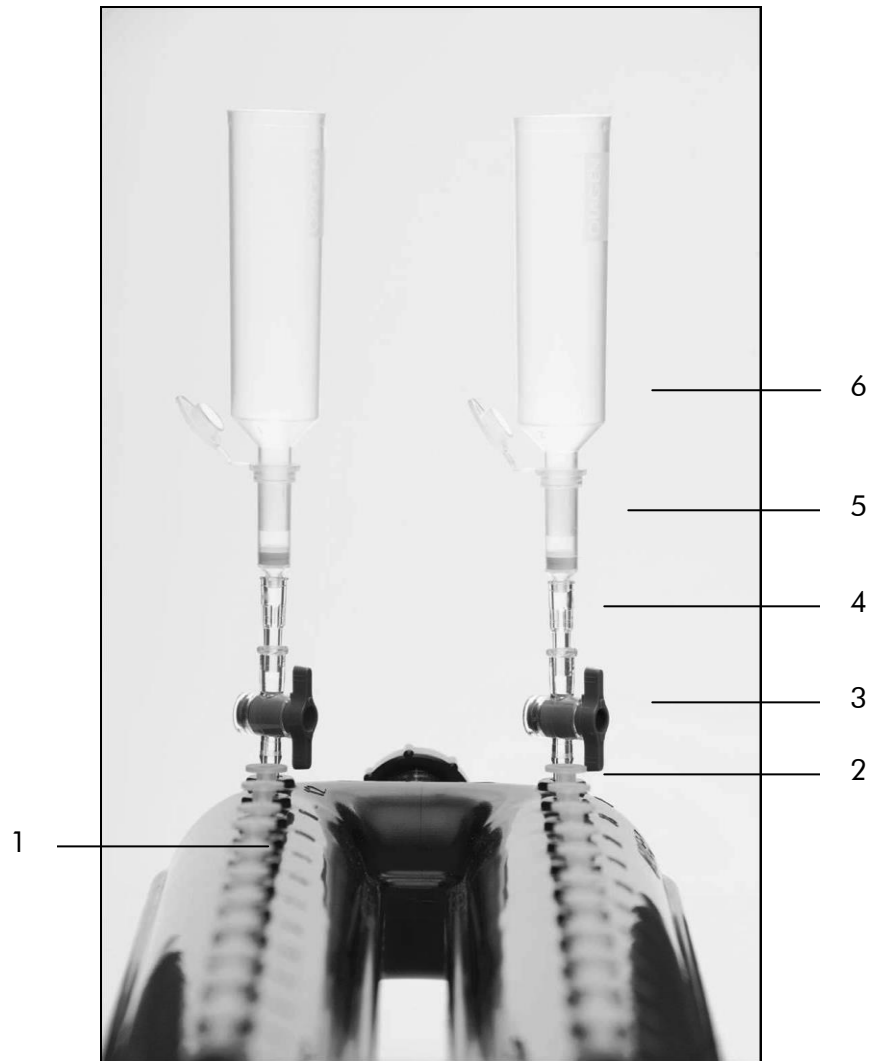

Figure 2. Setting up the QIAvac 24 Plus with QIAamp UCP Mini columns using VacValves, VacConnectors, and Tube Extenders.
2. **Insert a VacValve (optional) into each luer slot of the QIAvac 24 Plus that is to be used (see Figure 2). Close unused luer slots with luer plugs or close the inserted VacValve.**
3. **Insert a VacConnector into each VacValve (see Figure 2).**
4. **Place the QIAamp UCP Mini columns into the VacConnectors on the manifold (see Figure 2).**
5. **Insert a tube extender (20 ml) into each QIAamp UCP Mini column (see Figure 2).**